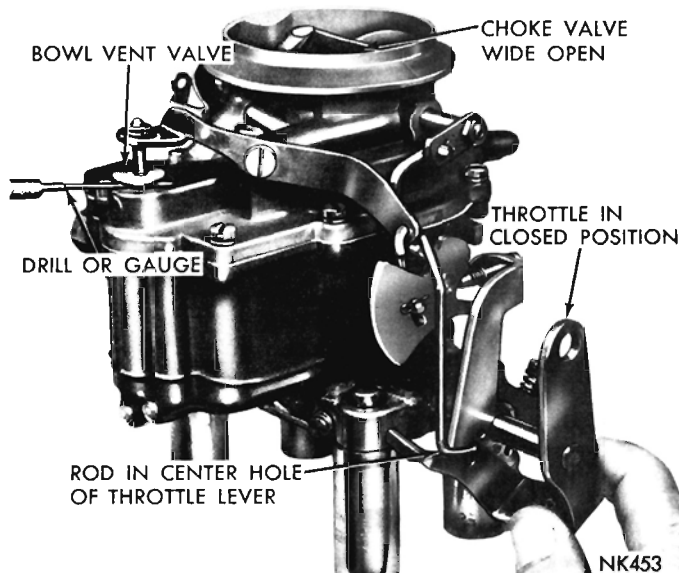

Fig. 22—Measuring Bowl Vent Valve Opening
(1) Back off idle speed adjusting screw. Open the choke valve, so that when the throttle valves are closed, the fast idle adjusting screw will not contact the fast idle cam.
(2) Be sure the pump rod is in the medium stroke hole in the throttle lever, and that the bowl vent clip on the pump stem is in the center notch.
(3) Close the throttle valves tightly. It should be just possible to insert a $\frac{5}{64}$ inch drill between the bowl vent and the vent seat protruding through the air horn, as shown in (Fig. 22).